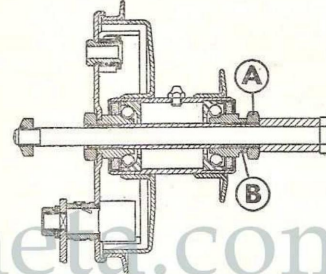

Fig. 17. Front hub adjustment.
1. *Slacken the locknut (A, Fig. 17).*